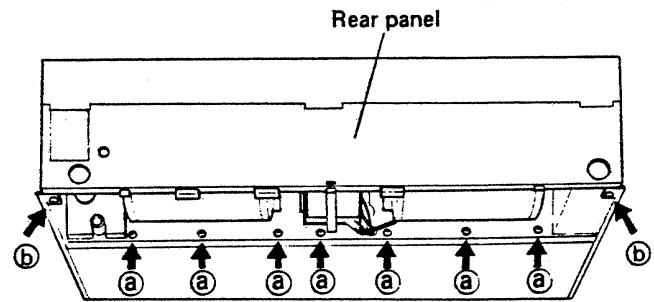

Fig. 9
- 8) Remove the two screws (b) to remove the rear panel. Fig. 9